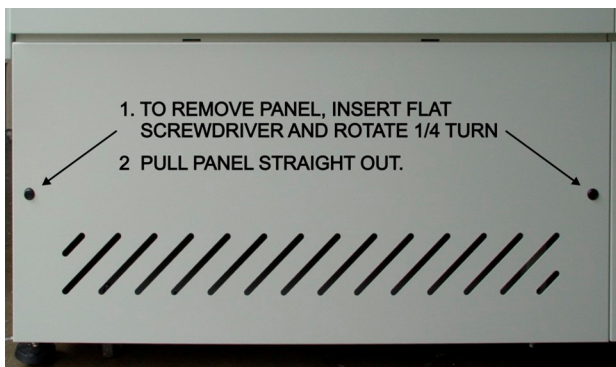

Figure 3-3 Lower Access Panel Removal
**LOWER PANELS.** Gain access to the lower sections of the furnace by turning the quick release screws and removing the panels (see Figure 3-3 and Figure 3-4). For convenience, lower panels can be rotated and hung from the slots in the upper panels during service (see Figure 3-5). Make sure the EPO interlock switches (Figure 3-7) on the front two lower electrical panels are pulled out if the furnace is to be energized while these lower panels are off.